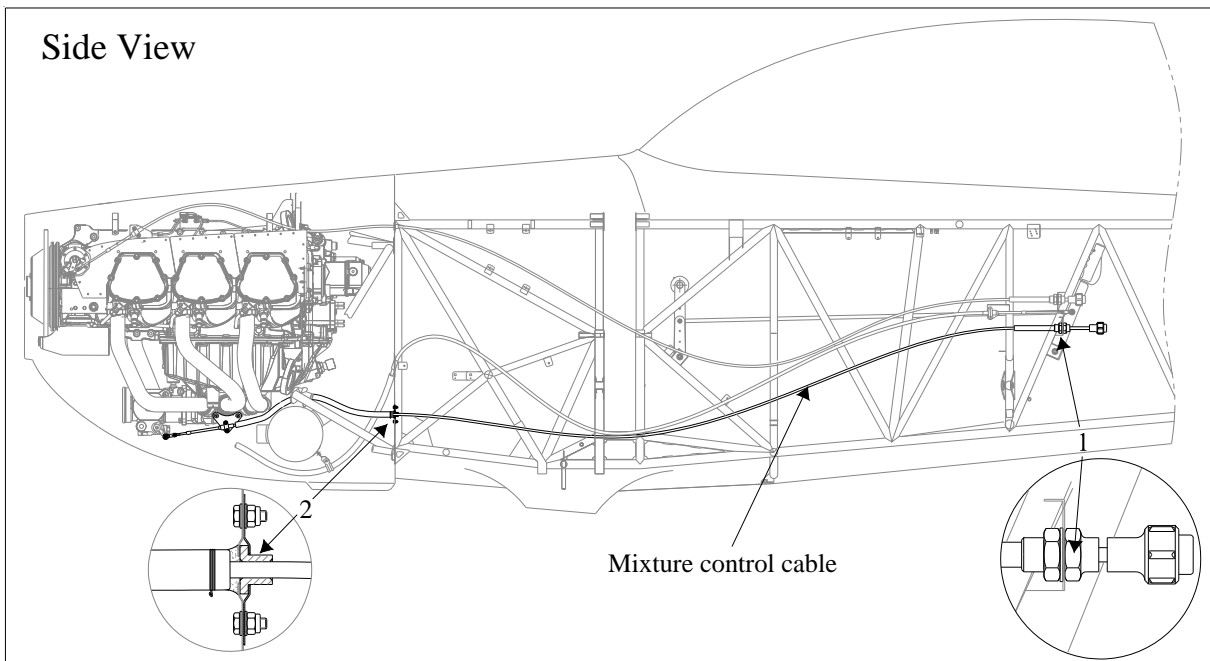
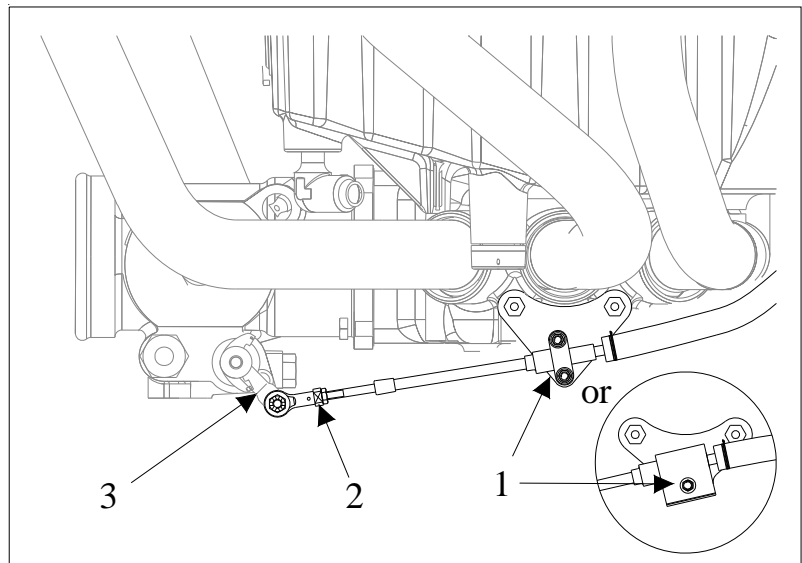

Figure 5
Figure 8 Mixture Vernier Control Cable Rigging
Refer to Figure 5. The mixture of the fuel injector servo is controlled by means of the vernier mixture control cable located on the left side of the cockpit (red control knob). This cable is routed on the left side of the fuselage, penetrates the firewall and is then routed to the mixture control lever. In the engine compartment this cable is covered with a 540 mm firesleeve. The cable is attached to the fuselage using a clamp block at its front end and cable ties. The mixture vernier control unit (1) is mounted to a fuselage bracket. The fire wall penetration is sealed with PR-812 (Products Research & Chemical Corp., USA) firewall sealant and covered with a clamp sheet (2).
- 5 Remove cotter pin, castle nut, washers and bolt from the rod end (2, Figure 8) to mixer control lever attachment (3).
- 6 Loosen counter nut and remove the rod end (2) from the mixture control cable.
- 8 Remove clamp block (1) attachment bolt.
- 9 Remove clamp block (1) from the vernier mixture control cable.
- 11 Remove 2 bolts of the clamp sheet attachment positioned at the firewall break through (2, Figure 5). Remove firewall sealing and disconnect clamp sheet and contained plastic guidance from the rear side of the firewall.
- 13 Remove attachment nut and washer of the mixture control unit (1, Figure 5).
- 10 Install the mixture vernier control cable to the respective bracket by installing the clamp block (1, Figure 8) to the conduit fitting of the control cable.
- 11 Push the mixture actuator (3, Figure 8) to the full forward position.
- 4 If necessary adjust rod end (2, Figure 8) by the following steps:
- a Remove cotter pin, castle nut, washers and bolt from the rod end (2) to mixer control actuator (3) attachment.
- b Loosen the counter nut and adjust rod end (2) by turning. Ensure thread is visible in the inspection hole when fastening. Apply inspection lacquer on the counter nut.
- c Reconnect the rod end (2) to the mixture control actuator (3).